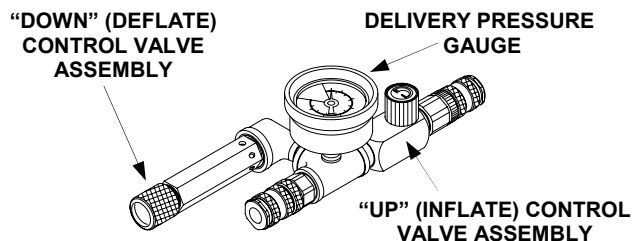

Figure 2-5. Single Safety Relief and Control Valve Controls and Gauges
The only controls on a single or dual safety relief control valve (figures 2-5 and 2-6 respectively) are the "UP" (inflate) and "DOWN" (deflate) control valve assemblies. The control valve assemblies are either independently opened ("UP") to permit regulated air to inflate the lift bag(s) or closed ("DOWN") to relieve system air to deflate the lift bag(s) and prevent regulated air from pressurizing the system. Each of the "UP" and "DOWN" control valve assemblies on the dual safety relief and control valve operate independent of the other thereby permitting the application and release of air pressure to and from the lift bag(s)
- d. **Single and Dual Safety Relief and Control Valves (Figures 2-5 and 2-6 Respectively).** A delivery pressure gauge is provided for each of the "UP"/"DOWN" control valve assembly(s), respective to the controller (single or dual safety relief and control valve). The gauge is marked in 20 psi increments from 0 psi to 200 psi and is scribed each 2 psi. The pressure gauge is also marked each 200 kPa from 0 to 1400 kPa and is scribed each 20 kPa.